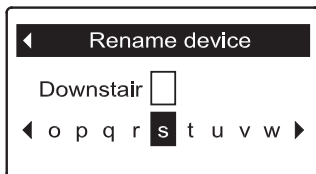

FIG. 127
7. Press the RIGHT (▶) or LEFT (◀) buttons to scroll through the character list.. Stop when the character you want to select is highlighted (See Fig. 127).